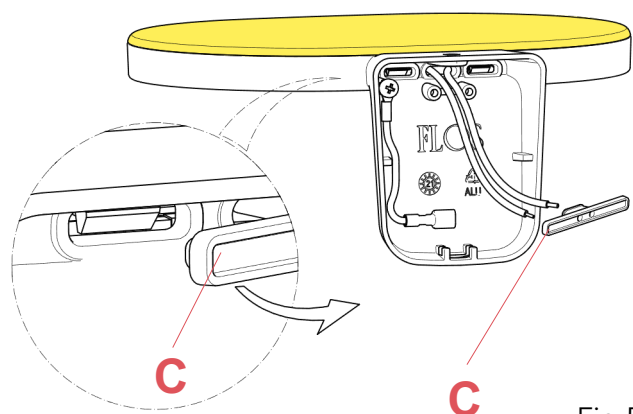

Fig.5
Remove the rubber cable gland (C).(Fig.5)